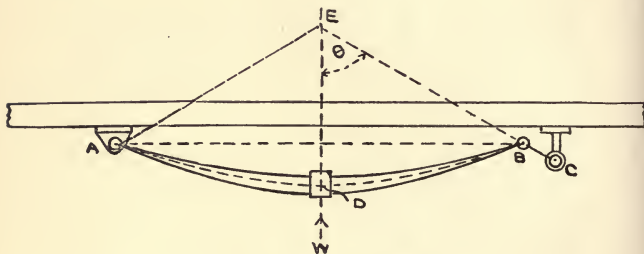

Fig. 3.
5. Fig. 3 illustrates a spring attached to a frame by means of an inclined link  $BC$ .  $AB$  is 50 inches and the point  $D$  is 8 inches below  $AB$ . Determine the bending moment at the mid-section of the spring when the link  $BC$  makes an angle  $\theta$  with the vertical, and examine the value of  $\theta$  which makes this bending moment a minimum.